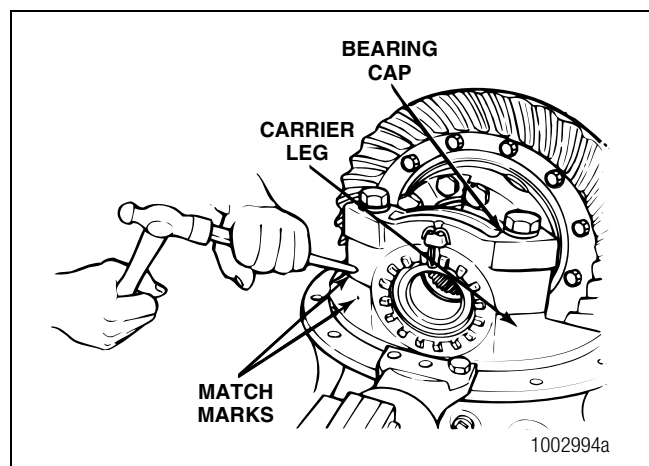

Figure 3.12
4. Mark one carrier leg and bearing cap to correctly match the parts during carrier assembly. Mark the parts using a center punch and hammer. Figure 3.12.